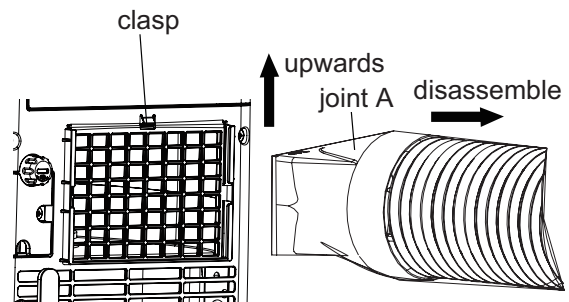

Fig.18
- (2) Remove joint A: Press the clasp and lift joint A upwards to remove it.(As shown in Fig.18)